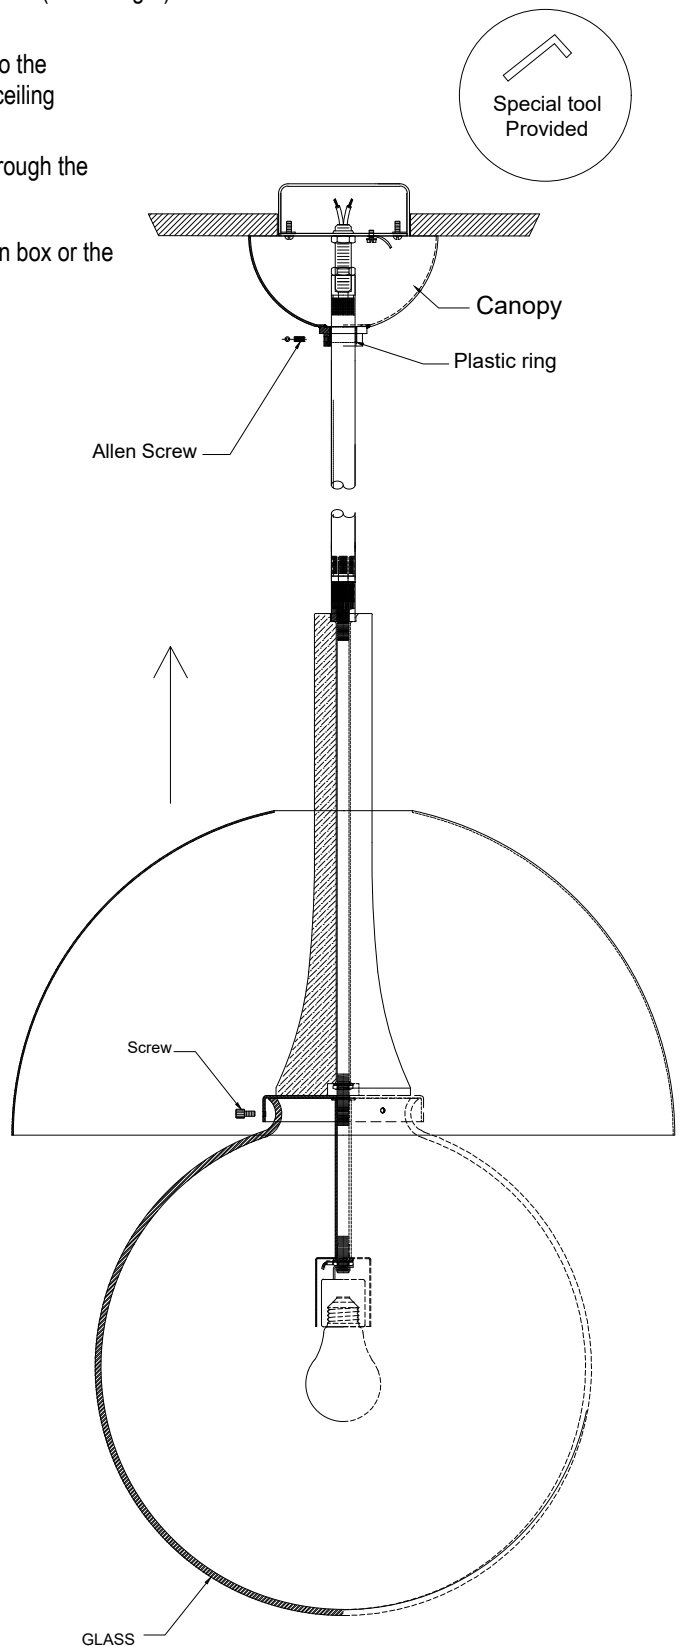

FIGURE-02
8. Lift the canopy up the stem. Using the allen screw, install the canopy. Tighten the allen screw using allen wrench to hold the canopy in place. (See Figure-02)
10. Pull up the metal shade and carefully install the glass. Use the thumb screw to hold the glass in place. (see FIGURE-02)